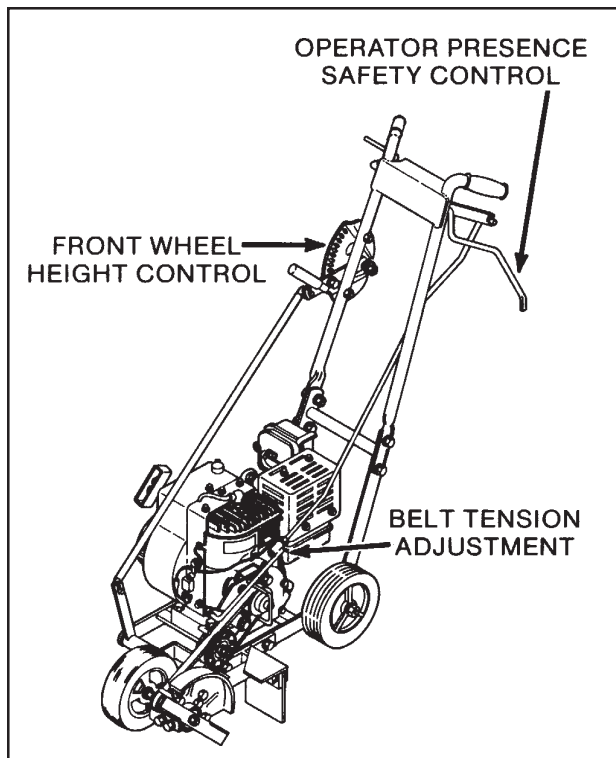

Figure 5, Edger Controls
Figure 5 is a general view of the edger.
2. Before starting the engine, be sure the blade has a free arc of travel and the blade is fully raised. Damage to the blade can result if the blade is not in the highest position (See Figures 5 and 6).